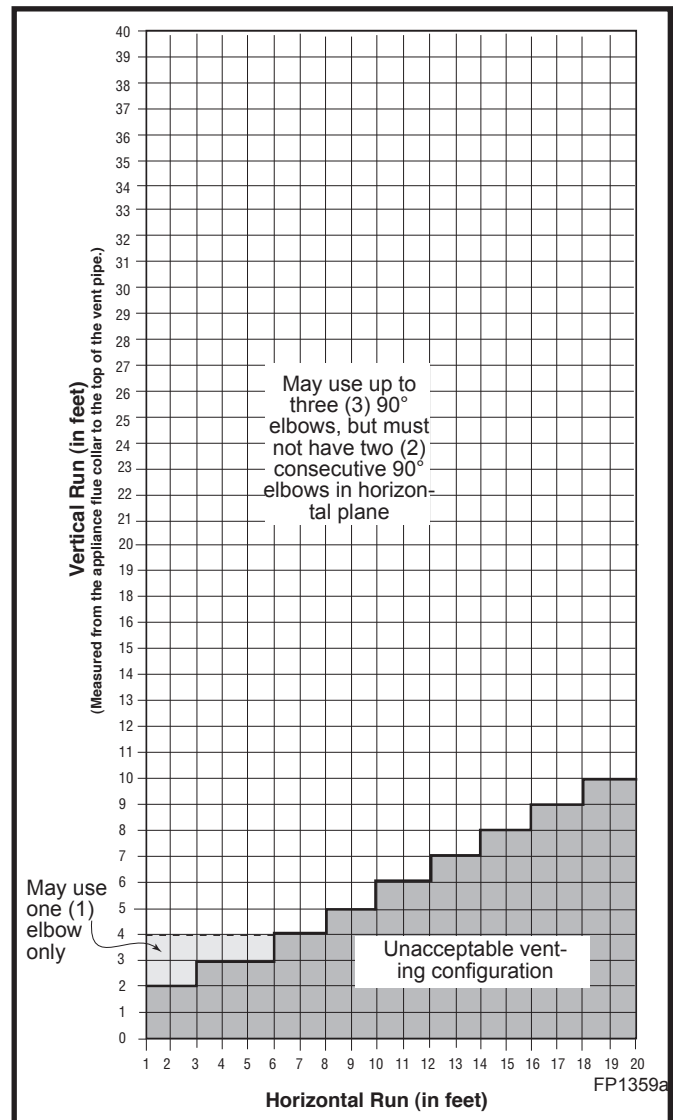

Fig. 13 Horizontal vent termination window.
- Approved vent systems must terminate above and including the heavy line in Figure 13.
- With a rise between 2' - 4', one (1) 90° or two (2) 45° elbows may be used.